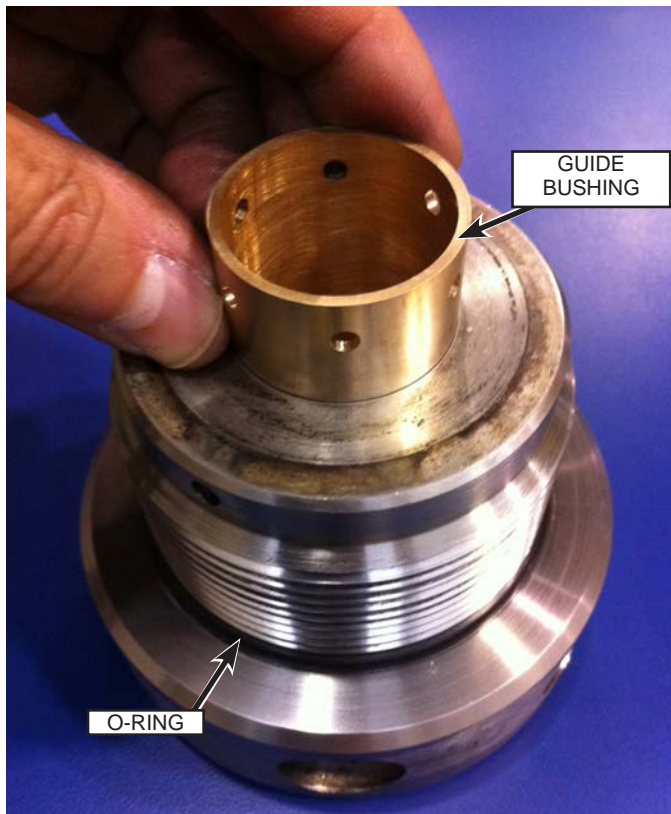
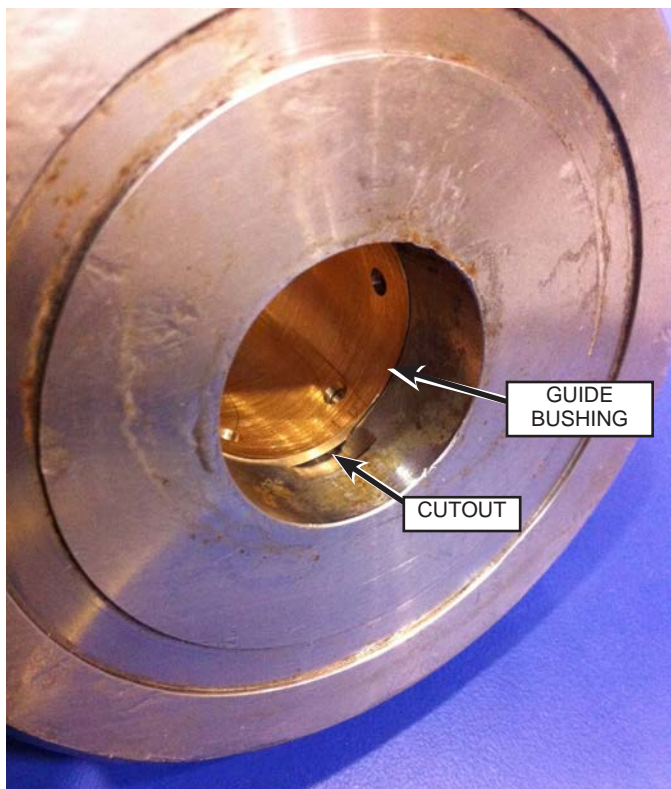

Fig. 69: Guide Bushing Removal (15K/20K Gland Nuts)
Fig. 70: Stuck Bushing
10. Remove the plunger and guide bushing (Fig. 69) from the gland nut and inspect. The guide bushing may be stuck and require some force to remove. Use a tool in the cutout (Fig. 70) to push the bushing out. Use caution to avoid damaging the gland nut.
11. Remove the O-ring (Fig. 69) from the gland nut.